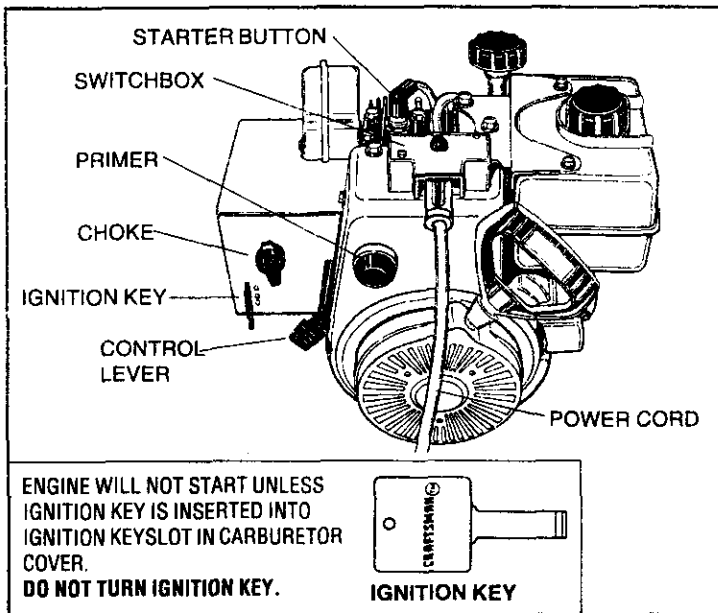

Figure 3
② ELECTRIC STARTER - 120 VOLT A.C. (see Figure 3):
ELECTRIC STARTER (Continued - see Figure 3):
- Move engine CONTROL LEVER (see Figure 3) to "FAST".
- Move engine CHOKE (see Figure 3) to "OFF".
- Connect POWER CORD to SWITCHBOX (see Figure 3).
- Push STARTER BUTTON (see Figure 3) to crank engine.
① BEFORE STOPPING (see Figure 3):
② STOP ENGINE (see Figure 3):
③ AFTER ENGINE IS STOPPED (see Figure 3):